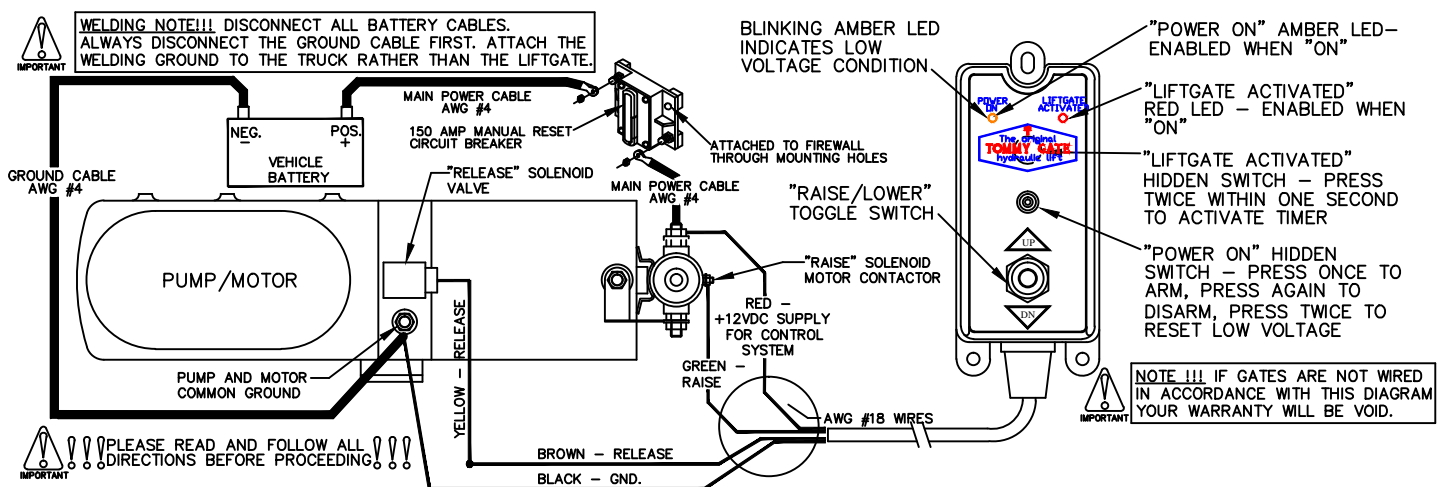

Figure 14: Wiring diagram.
2. **Push** the hidden "Power On" switch (Figure 14). The amber "Power On" LED will illuminate.
12. **Connect** the circuit breaker and battery as outlined in the *Tommy Gate Recommended Electrical Wiring Guidelines* and wiring diagram (Figure 14).